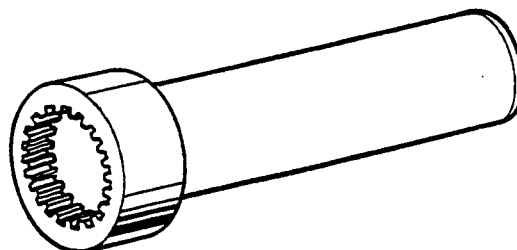

Fig. 25
- Sleeve, ref. 3378004M1 (Fig. 25)
- Adapter plate for sling, ref. 3378013M1 (Fig. 25)